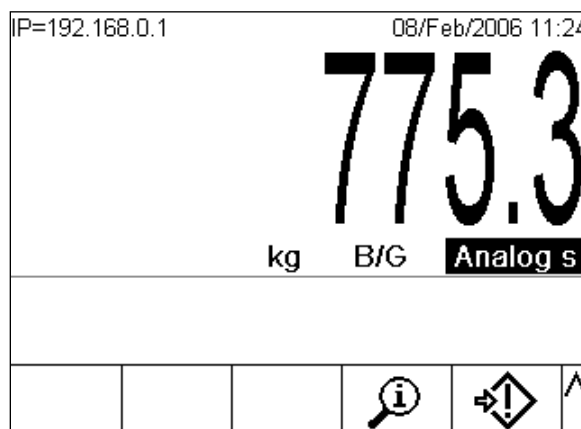

Figure 1-3: IND780 Home Screen Showing Information Recall Softkey
1. From the home screen (Figure 1-3), press the INFORMATION RECALL softkey  (typically in the second row of softkeys).